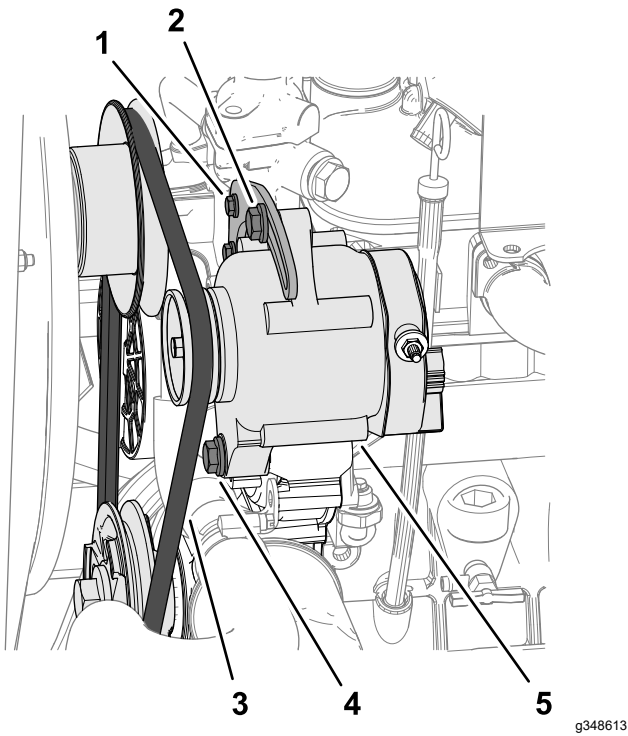

Figure 83
4. Apply 10 kg (22 lb) of force against the alternator belt (Figure 83), midway between the pulleys.
- If belt deflection is less than 10 mm (3/8 inch), loosen the alternator pivot bolt and tension bolt (Figure 83), and reduce the belt tension.
- If belt deflection is greater than 10 mm (3/8 inch), loosen the alternator pivot bolt and tension bolt (Figure 83), and increase the belt tension.
Note: If needed, loosen the tension bracket bolt (Figure 83).
6. Tighten the bolts (Figure 83).